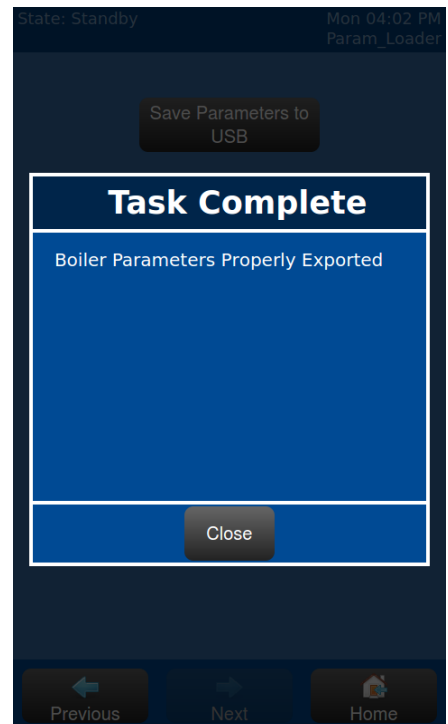

Figure I-3:
- 10) **DO NOT REMOVE THE USB DRIVE UNTIL COMPLETED** [Figure I-3].